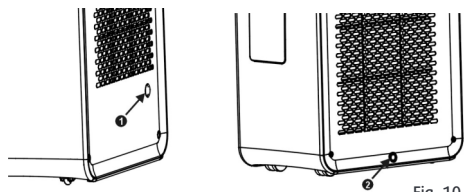

Fig. 10
1. When the unit is in cooling mode, it is not necessary to install the condensate drainage pipe since condensate evaporates automatically. Make sure that when the unit is operating, the rubber plug of the drainage hose is securely fixed (see Fig. 10).
2. In heating mode, remove the rubber plug (2) of the drainage hose (Fig. 10), install the respective drainage hose to improve heating efficiency.
3. In dehumidification mode, remove the rubber plug (2) of the drainage hose, install the respective drainage hose. Disconnect the air outlet hose, connect the drainage hose to the drainage hole and drain water from the unit to ensure maximum dehumidification efficiency.
When the condensate collection tank is filled up, water needs to be drained, otherwise the unit will not operate. Condensate should be drained by opening the lower plug at the device's base (Fig. 10 pos. 2).
A hole designed for continuous condensate removal in the center of the device (Fig. 10 pos. 1) can be used for continuous condensate removal under conditions of increased humidity inside a room.